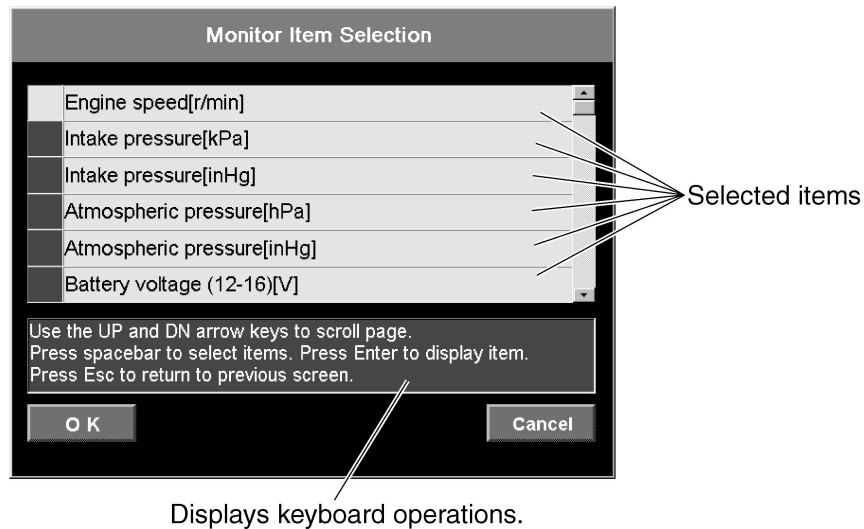

Fig. 21
3. Select an item by either clicking it or pressing the up or down arrow keys on your keyboard, and then press the space bar. (Fig. 21)
4. Click the **OK** button or press the Enter key on your keyboard. The **Engine monitor** window appears. To cancel the monitor, click the **Cancel** button or press the Esc key on your keyboard. (Fig. 21)